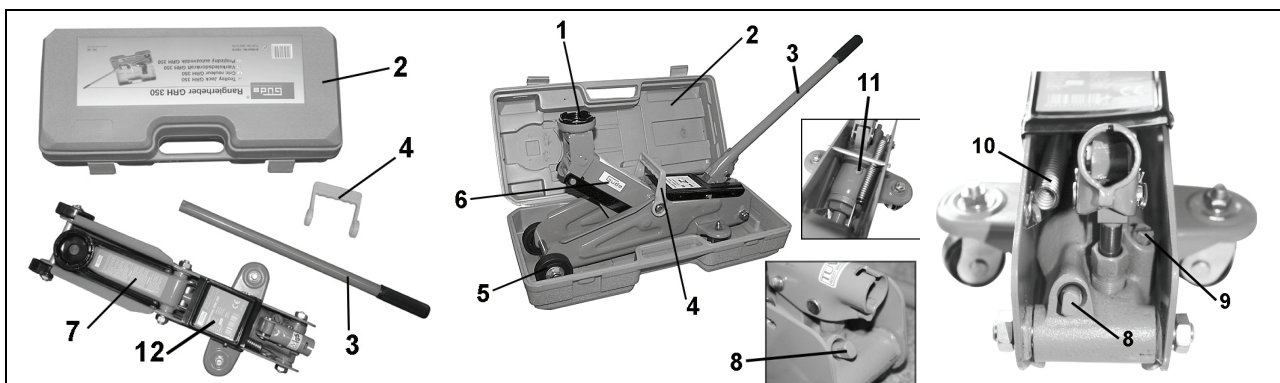

Fig. 1
- Put the rubber plug tightly in the hole again (Fig. 1/Pos. 11).